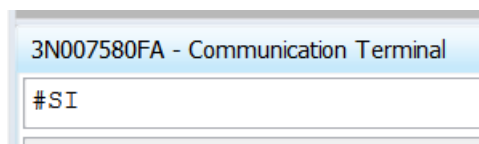

Figure 10-1. Communication Terminal
2. In the field below the Serial Number of the Controller, enter **#SI**. Then click **Send** at the right side of the field (see Figure 10-1).